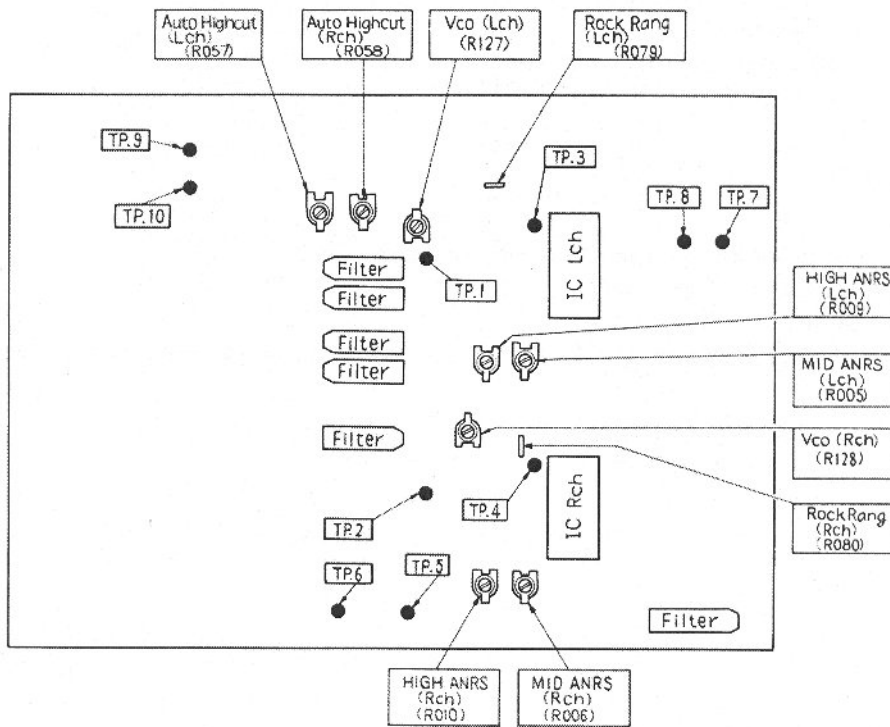
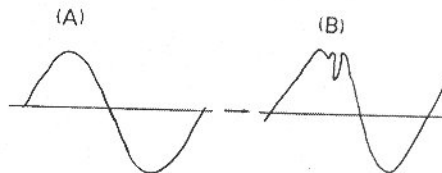

Fig. 6
Fig. 7
FREE RUNNING FREQUENCY ALIGNMENT (Refer to Fig. 6)
ROCK RANGE ALIGNMENT (Refer to Fig. 6 and Fig. 7)
3. Adjust the output wave to the Fig. 7 (B) by the resistor (R079).
3. Adjust the output wave to the Fig. 7 (B) by the resistor (R080)
AUTOMATIC NOISE REDUCTION SYSTEM ALIGNMENT (Refer to Fig. 6)
AUTO HIGH-CUT ALIGNMENT (Refer to Fig. 6)